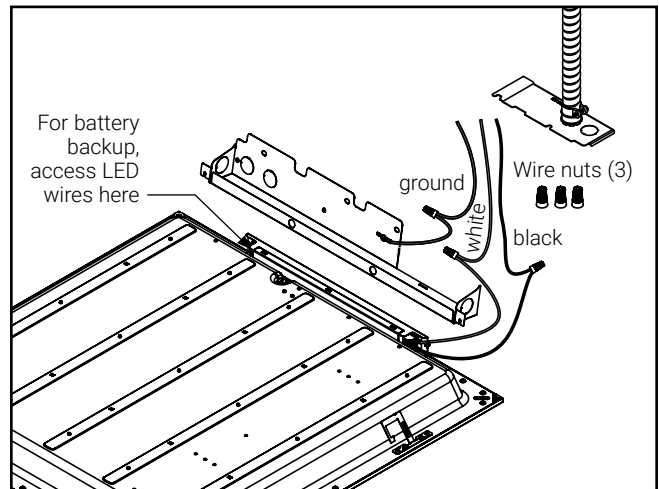

Figure 5.
5. Using the open knockout bring in the supply line. Using the three provided wire nuts to attach the ground wire to the ground supply wire, the black (line) wire to the black supply wire, and the white (neutral) wire to the white supply wire (Fig. 5).
NOTE: This fixture is compatible with battery backup systems including the Surelites EBPLED7W and EBPLED14W. If using a battery backup system remove driver cover plate to access LED load wires and follow battery backup wiring instructions (Fig. 5). Ensure driver cover plate is reinstalled after wiring.